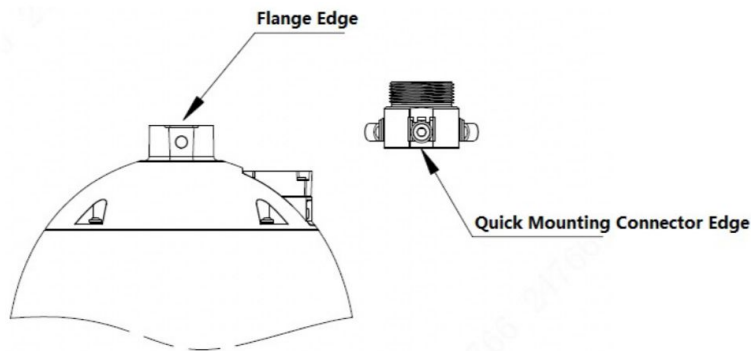

Figure 2-2
Step 3 Align the flange edge with that of the quick mounting connector; push the PTZ into the quick mounting connector, as shown in Figure 2-2.